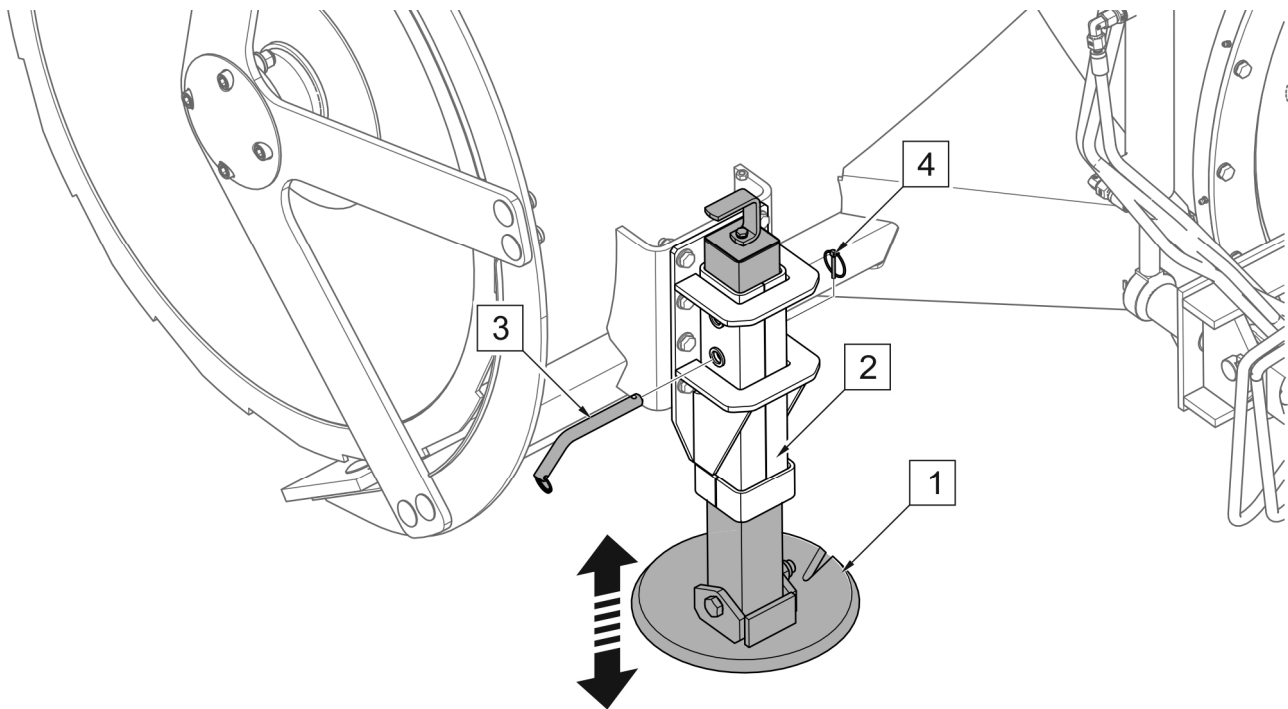

FIGURE 4.12 Working height adjustment in the snow blower equipped with slides
(1) - slide, (2) - slide guide (3) - pin, (4) - locking cotter pin
In the snow blower equipped with slides (FIGURE 4.12), the height adjustment is performed by unlocking pin (4) and proper sliding out or sliding in slide (1) mounted in guide (2). Location of the slide can be changed every 7 mm using one of the three openings in the guide. When the height is set, slides must be protected with a pin (3) and spring cotter pin (4).